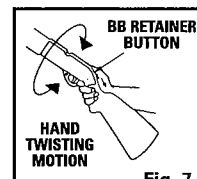

Fig. 7
- With a hand twisting motion, shake and twist the air rifle until ALL of the BBs are out of the visual magazine. (Fig. 7)